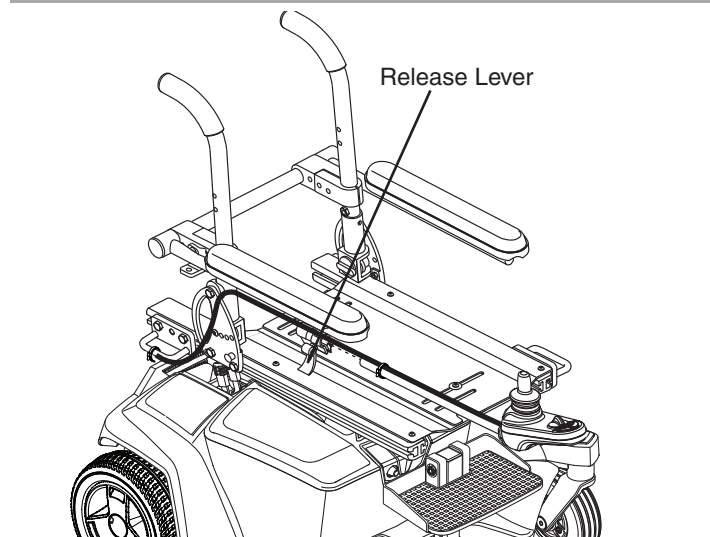

Figure 9. Controller Position
6. Route the controller harness to the back of the power base and secure it with wire ties. See figure 9.
6. Route the controller harness to the back of the power base and secure it with wire ties. **See figure 9.**